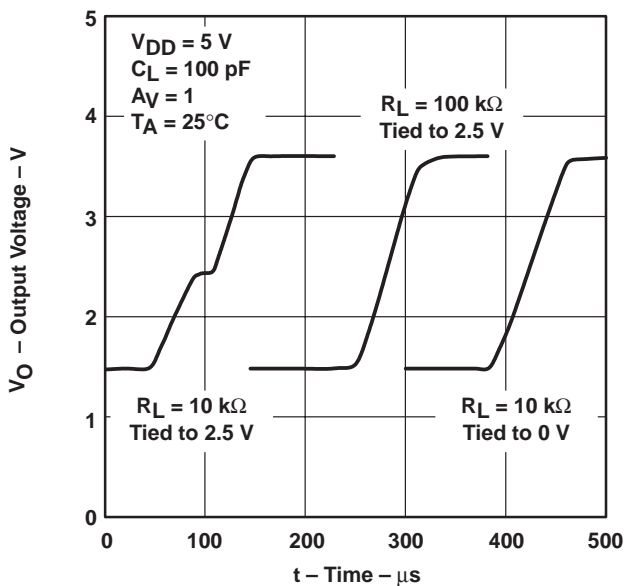

Figure 39
- Where the load is referenced. When the load is referenced to either rail, this condition does not occur. The distortion occurs only when the output signal swings through the point where the load is referenced. Figure 39 illustrates two $10\text{-k}\Omega$ load conditions. The first load condition shows the distortion seen for a $10\text{-k}\Omega$ load tied to 2.5 V . The third load condition shows no distortion for a $10\text{-k}\Omega$ load tied to 0 V .
- Load resistance. As the load resistance increases, the distortion seen on the output decreases. Figure 39 illustrates the difference seen on the output for a $10\text{-k}\Omega$ load and a $100\text{-k}\Omega$ load with both tied to 2.5 V .